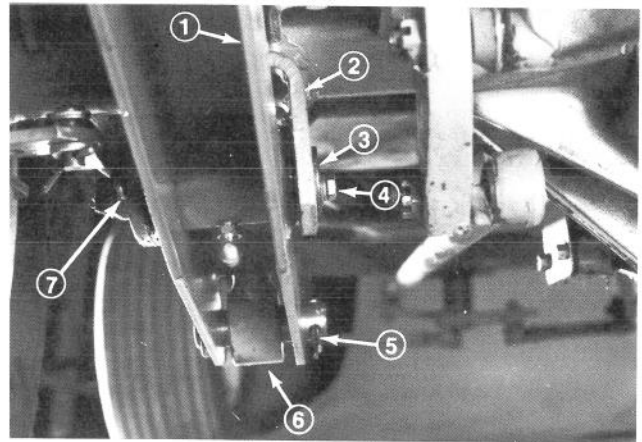

Figure 2
2. Slide lift arms under each side of traction unit. Align lift arm holes with axle bracket holes, insert pivot pins (provided with traction unit) and secure with capscrews, flatwashers, lockwashers and cotter pins (Fig. 2).
3. Align lift arm holes with hydraulic cylinder rod holes, insert pins and secure with cotter pins (Fig. 2).